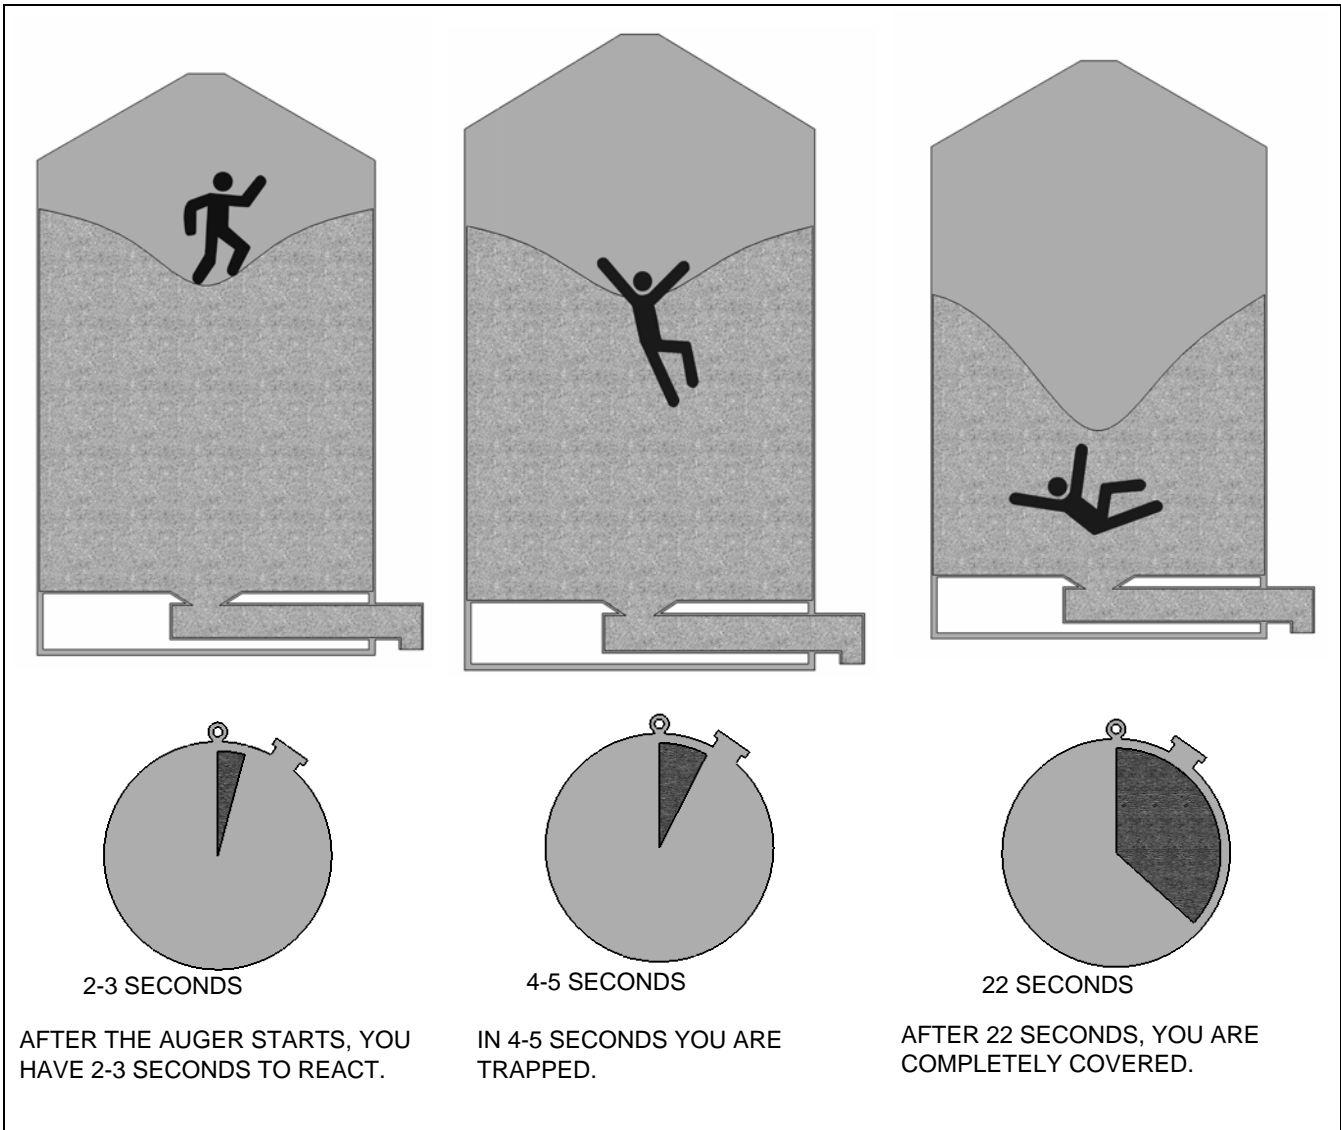

Figure 2.3 Bin Suffocation Hazards in Flowing Grain
- Always try to solve problems without entering a bin from the inspection hatch or filler cap. It takes more than 1000 lb (4.5kN) of force to remove someone buried below the surface of grain. Entering the bin while unloading grain will cause serious injury or death. Refer to Figure 2.3.
- Grain flows in a funnel-shaped path to the unload auger, portable grain auger, hopper, or any other unloading system. This vortex of grain behaves very much like a water drain. Velocity increases as grain flows from the bin wall at the top of the grain mass into a small vertical column at the center of the bin. See Figure 2.3.